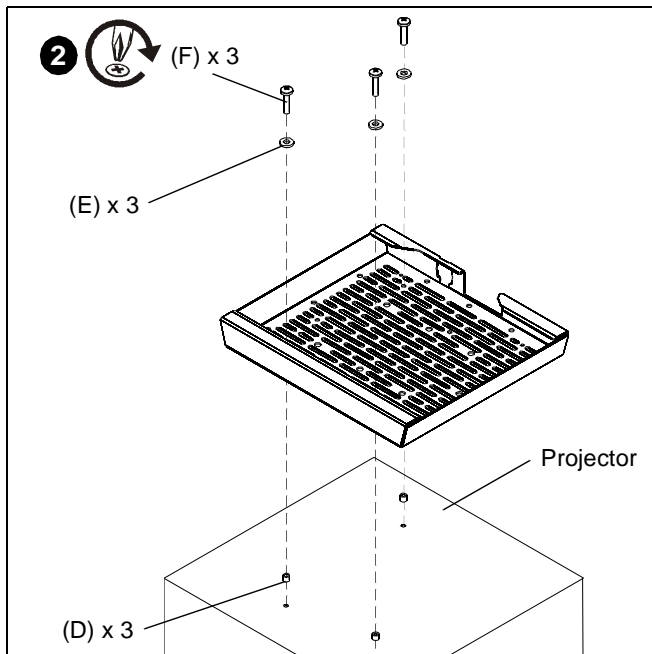

Figure 5
1. Align projector and security mount drawer so that the projector is oriented correctly and mounting holes are aligned. (See Figure 5)
2. Secure projector to mount using three M4 x 16mm Phillips head machine screws (F), three flat washers (E) and three spacers (D). Spacers should be placed between projector and mount. (See Figure 5)